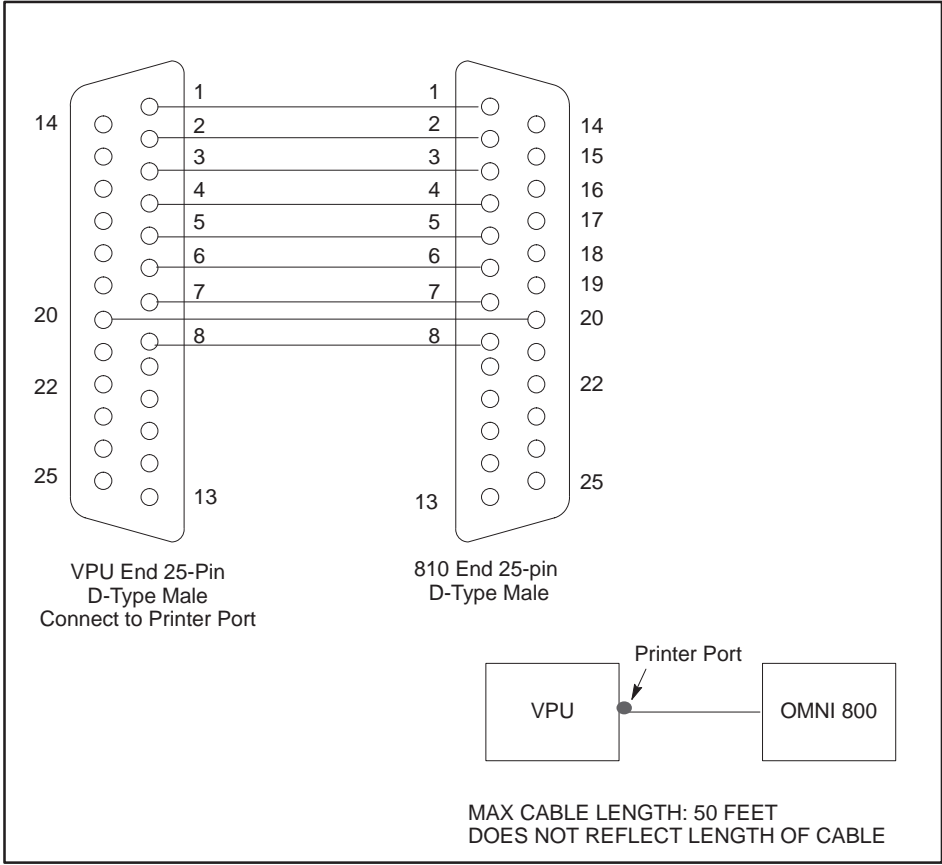

Figure 4-11 VPU200 to Model 800 Cable
**Model 810 Printers.** The VPU200 is connected to an 810 printer with the cable shown in Figure 4-11. Connect the VPU to the printer with a 1-to-1 cable (25 pin, D-type) using pins 1, 2, 3, 4, 5, 6, 7, 8, 20, and 22. Install jumpers between pins 2 and 3, 5 and 6, and 8 and 9 on the printer processor board. Set the printer for 6 lines per inch and 10 characters per inch. Any baud rate from 300 to 9600 may be used as long as both the VPU200 and the printer are set at the same rate.